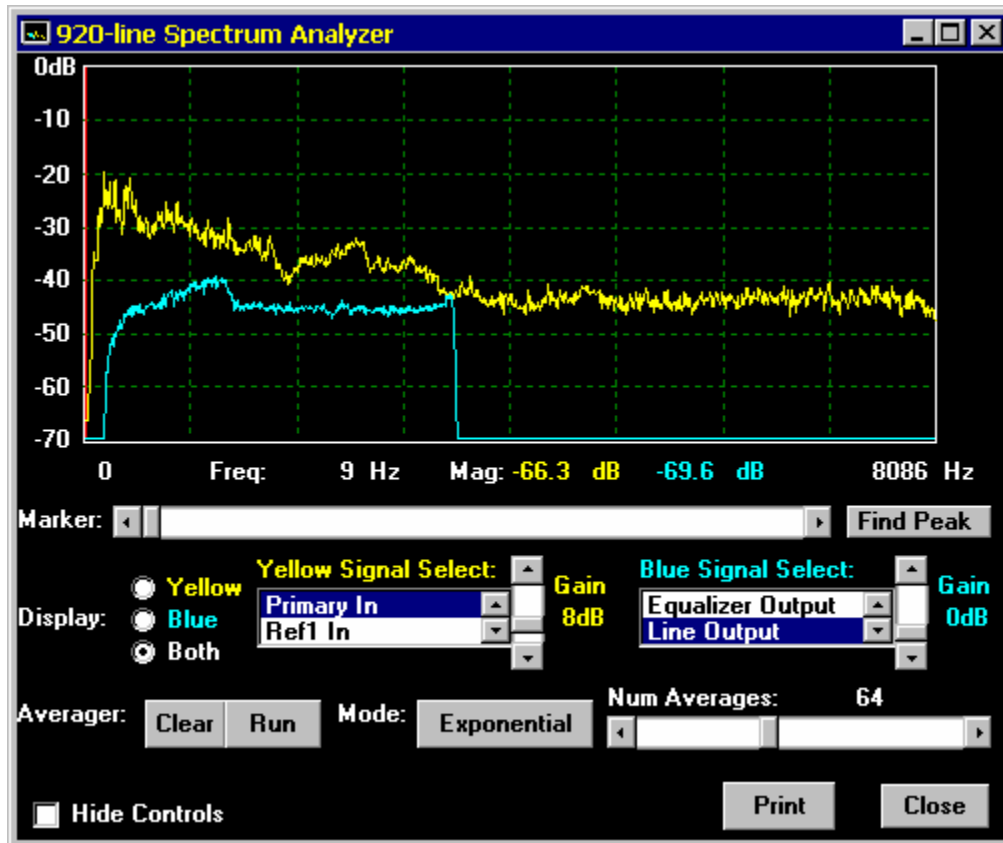

Figure 3-14 Tutorial Spectrum Analyzer Window
43. Click on the **Spectrum Analyzer** button. This will cause the Spectrum Analyzer window to appear as shown in Figure 3-14: (The actual spectral display will depend upon the audio being processed.)
Use the mouse to set up all controls as they appear in Figure 3-14. Make sure that the **Primary In** selection is highlighted in the Yellow Signal Select box, that the **Line Output** selection is highlighted in the Blue Signal Select box, and that Display is set to **Both**.